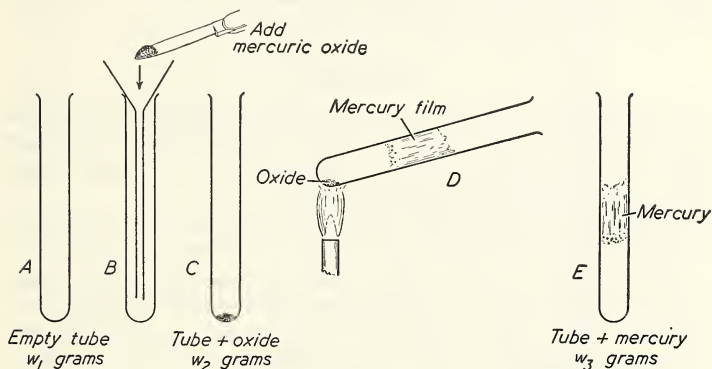

Fig. 48. The Law of Definite Proportions. The percentage composition by weight of mercuric oxide may be determined from this experiment.
2. Dry a clean Pyrex test-tube by heating it in a Bunsen flame. Allow it to cool, and weigh it accurately. Using a long-stemmed funnel, add about 1 gm. of mercuric oxide, making sure that none of the solid touches the sides of the tube. Remove the funnel and weigh again (Fig. 48).